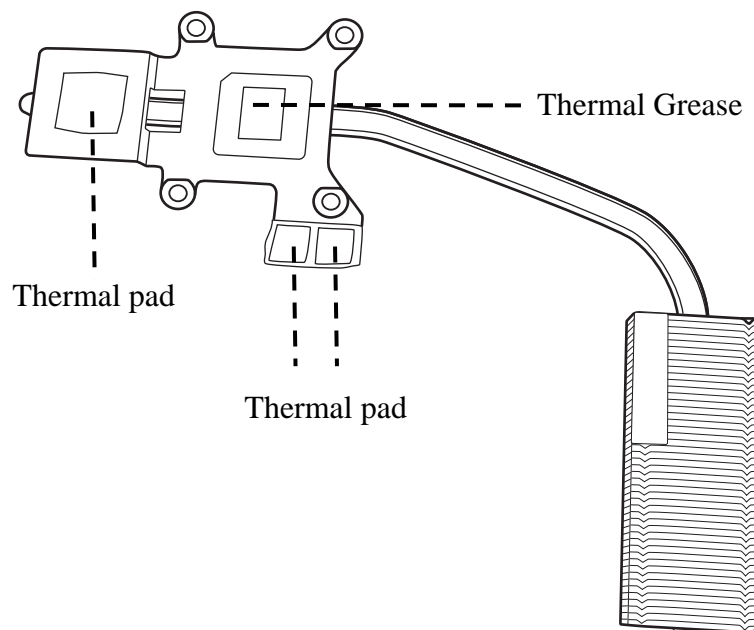

Figure 4.26 Reapply Shinetsu 7726 grease on the thermal module and remove any release papers
1. Reapply Shinetsu 7762 grease on the thermal module as shown in Figure 4.26. If you use one new thermal module, remove the release papers on the thermal pads first.
NOTE: When thermal pad needs to be changed, please paste it in the location indicated in Figure 4.26.